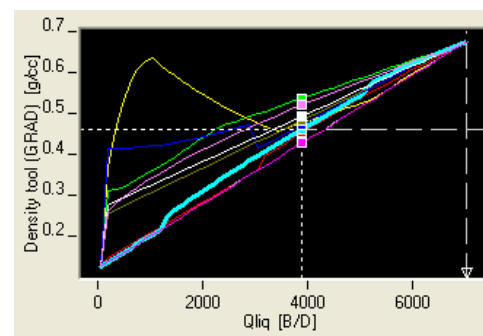

Fig B01.42 • Surface Match effect
- Return to the 'Rate calculation' tab. You can check on the plot the effect of the Surface Match, Fig. B01.42.